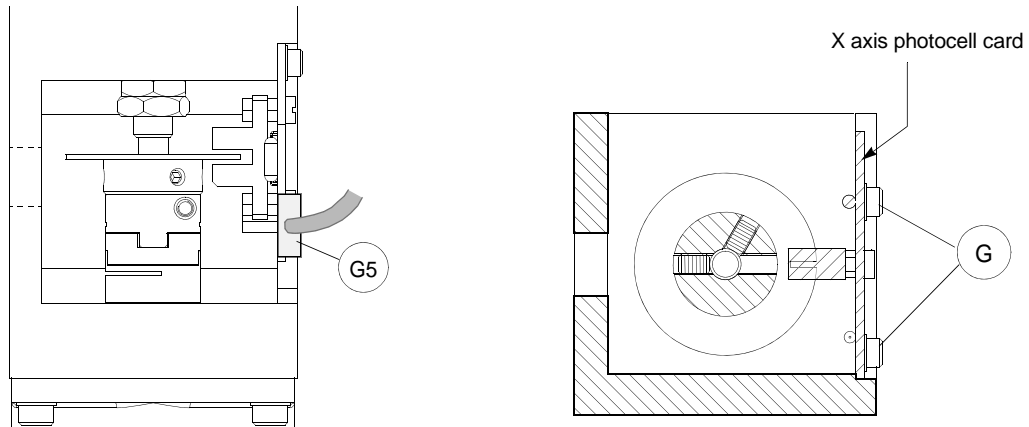

Fig. 60
- 3) unscrew the 2 (G) screws that secure the photocell card and remove.
- 4) disconnect the (G5) photocell cable (fig. 60).
- 6) replace the photocell in position securing it with the (G) screws.